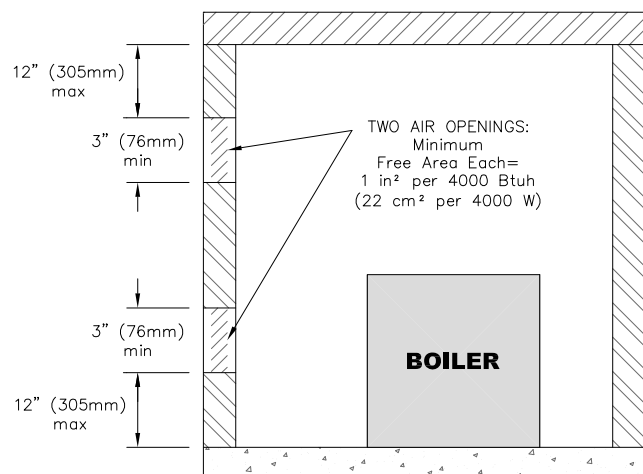
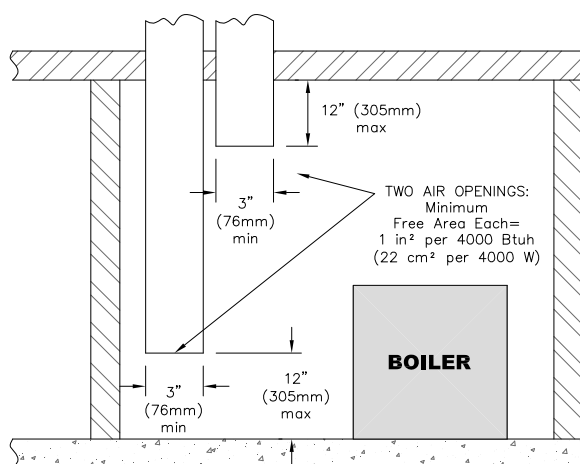

Figure 1.3: Air Openings – All Air Directly from Outdoors
Figure 1.4: Air Openings – All Air from Outdoors through Vertical Ducts
- i. Where communicating directly or through vertical ducts with the outdoors each opening shall have a minimum free area of 1 in² per 4000 Btu/hr (22 cm² per 4000 W) of total input rating for all equipment in the space. See Figure 1.3 for openings directly communicating with the outdoors or Figure 1.4 for openings connected by ducts to the outdoors.